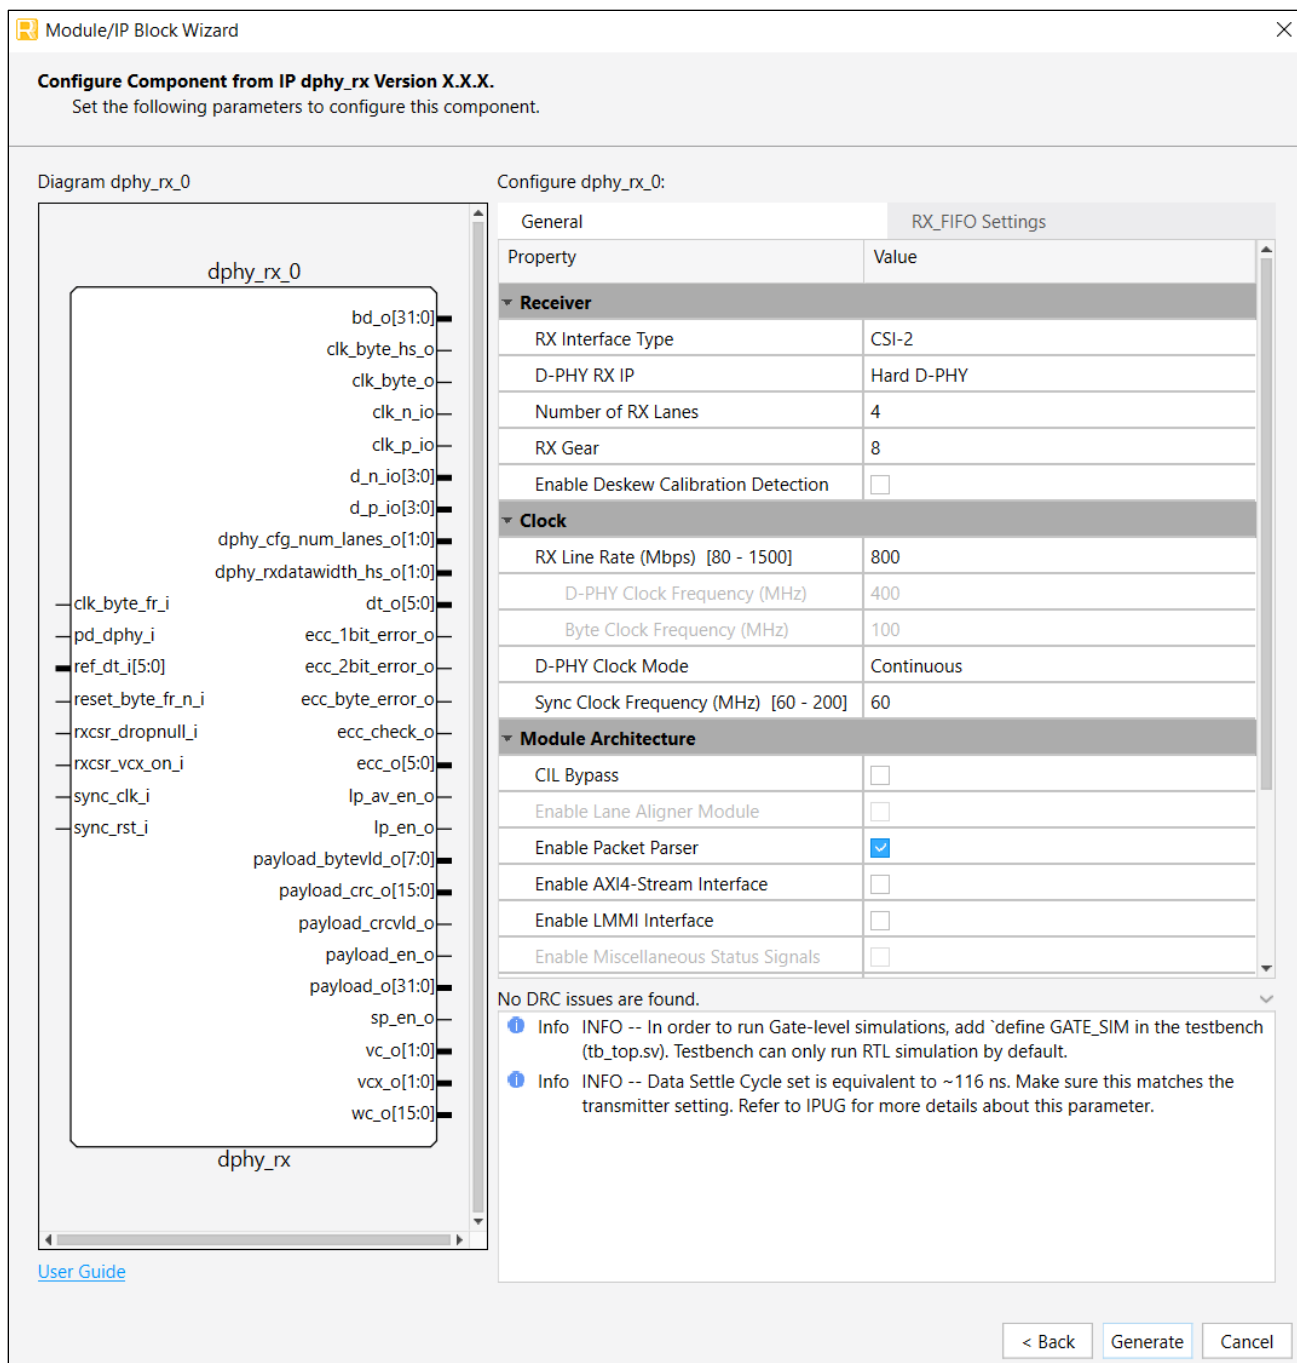

Figure 7.2. IP Configuration
3. In the next **Module/IP Block Wizard** window, customize the selected CSI-2/DSI D-PHY Receiver IP using drop-down lists and check boxes. Figure 7.2 shows an example configuration of the CSI-2/DSI D-PHY Receiver IP. For details on the configuration options, refer to the IP Parameter Description section.